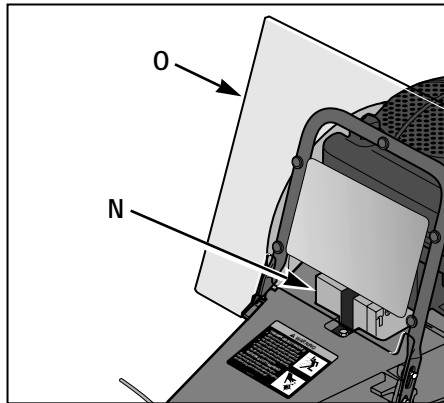

Figure 2-5: Lift and tilt debris shield forward to locate battery.
The battery (N, Figure 2-5) is located behind the debris shield (O). Lift and tilt the debris shield forward to access the battery.